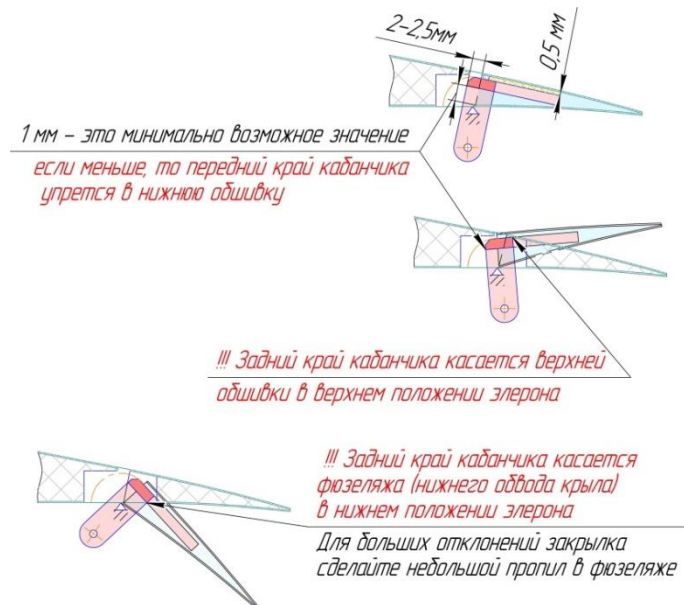

Fig. 2.15 - Kinematics aileron horn
**Attention:** Snipe wing pylon has a complex kinematics. Installing the horn the wrong location in the depth and the chord of the wing there can be interference with the upper wing skin . Figure 2.15